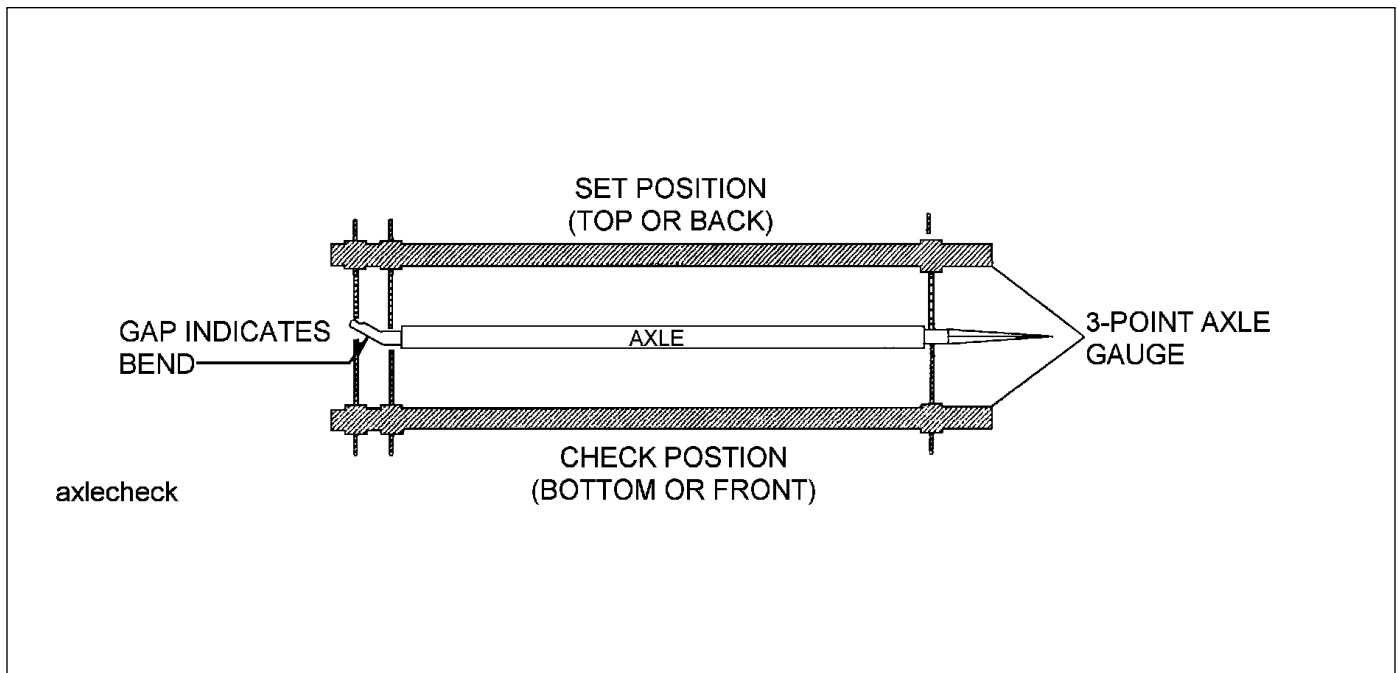

Figure 4-5: Checking Axle for Bend
2. Place a 3-point axle gauge against the front side of the axle, and adjust each axle gauge point to the axle. (Double point end against the inner and outer wheel bearing surfaces of the spindle being checked and the other point on the inner bearing surface on the other spindle.)(See Figure 4-5.)
3. Move the axle gauge and place against the back side of the axle. If either of the points of double point end fails to touch the axle surface, a bent spindle is evident. A point gap of .015" or more is considered excessive tire “toe” and the axle must be replaced (See Figure 4-5.)